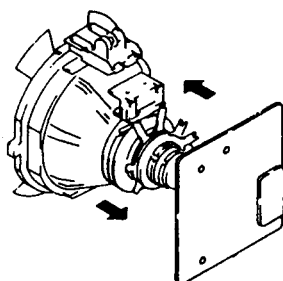

Fig.3-1
(Fig. 3-1 ~ 3-3)
4. Move the deflection yoke forward, and adjust so that the entire screen becomes red. (Fig. 3-1)